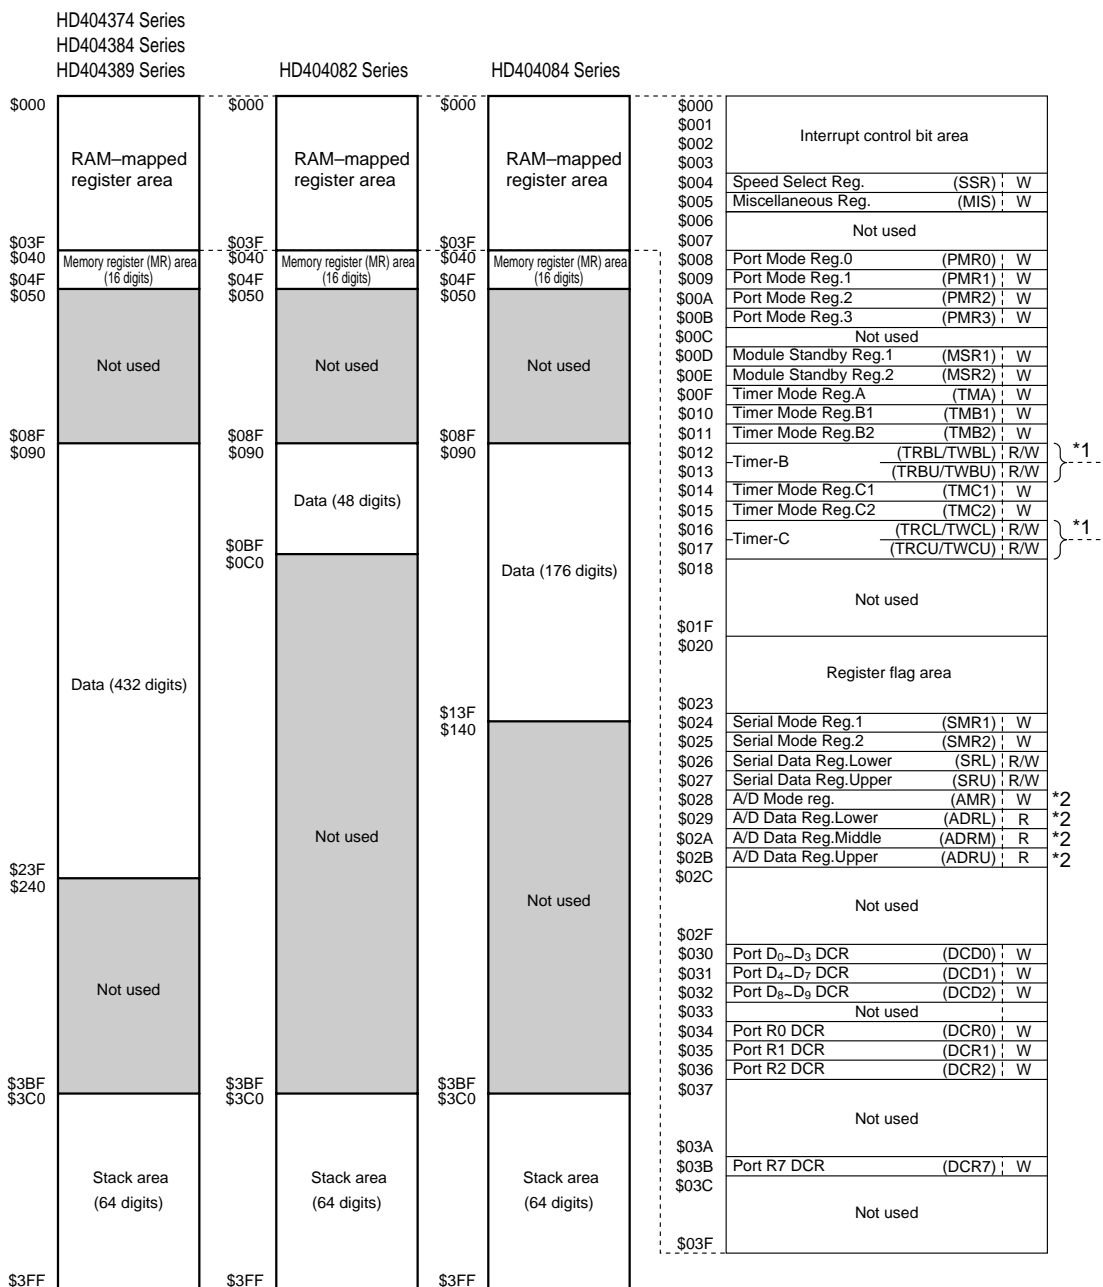

Figure 2 RAM Memory Map
The MCU has on-chip RAM comprising a memory register area, data area, and stack area. In addition to these areas, an interrupt control bit area, special register area, and register flag area are mapped onto RAM memory space as a RAM-mapped register area. The RAM memory map is shown in figure 2 and described below.
This area comprises mode registers and data registers for external interrupts, the serial interface, timers, A/D converter, etc., and I/O pin data control registers. Its configuration is shown in figures 2 and 5. These registers are of three kinds: write-only (W), read-only (R), and read/write (R/W). RAM bit manipulation instructions cannot be used on the other registers.